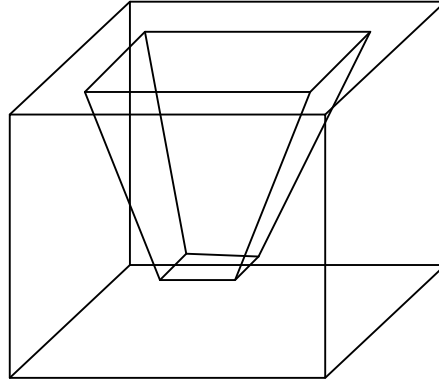

Figure 2-3 Etching finish plan
Following the rules defined above, the finished etching chart should be as Figure 2-3 shows. In the final, atoms in (100) plain should be etched, as described in rule 1; atoms in (110) plain should be etched too, as described in rule 3(a); atoms in (111) plain should be kept, as described in rule 3(b). Figure 2-3 is the 3D visualization, which we will show in the attended video, but the result analysis is illustrated in 2D view for simple.